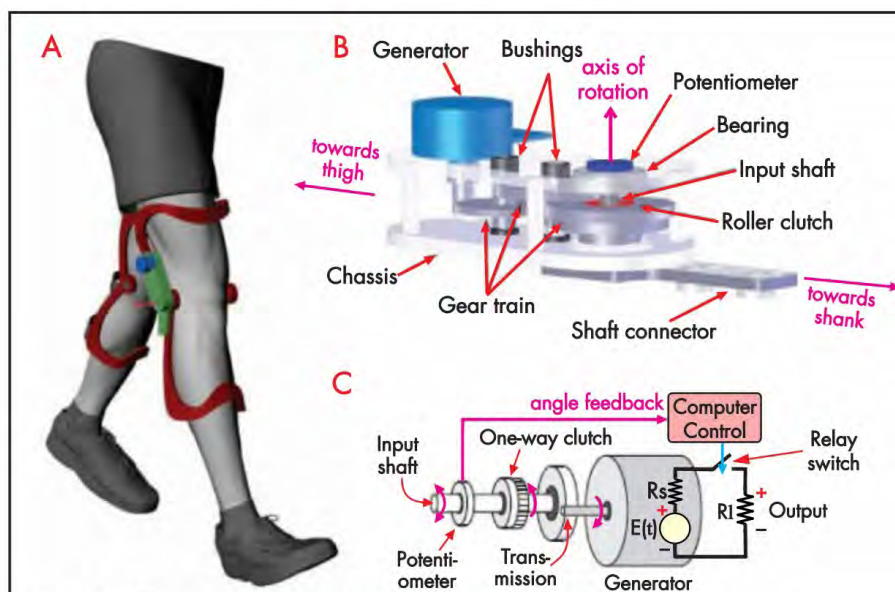

Fig.12: a biomechanical energy-harvester that mounts on the knee.
- knee motion: 36W (see Fig.12)